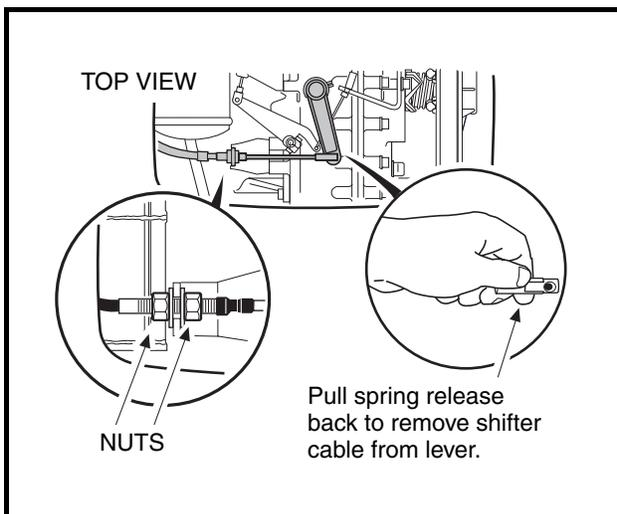

Figure 16-15 Shifter Cable
- 4.7. Loosen nuts securing shifter cable to shifter cable mounting bracket. Then disconnect the shifter cable rod end from the shifter arm on the unitized transaxle and remove the cable from the cable mounting bracket (**Figure 16-15, Page 16-9**).